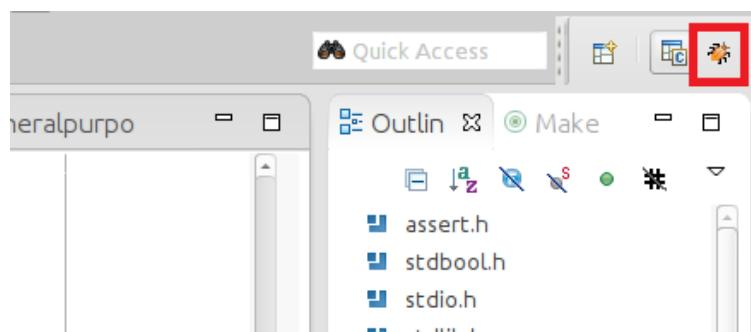

Figure 8-37. Switching to the DS-5 Debug Perspective
20. Switch to the DS-5 Debug perspective, as shown in Figure 8-37.